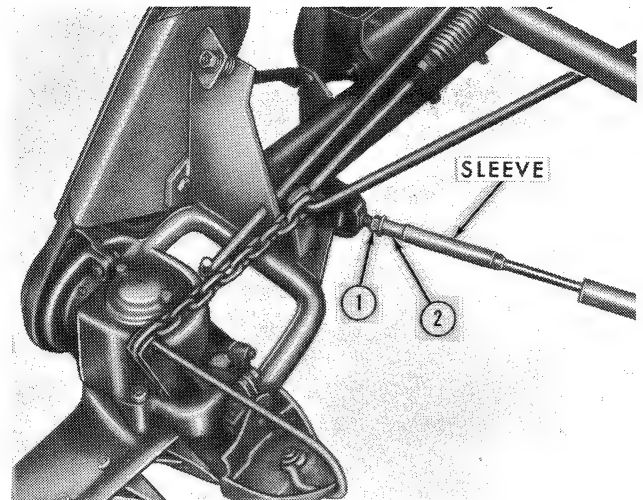

Figure 16
2. Loosen the jam nut (1), Figure 16.
3. Turn the sleeve, as required, with a pipe wrench at (2).
**IMPORTANT:** Do not use the pipe wrench at any point on the sleeve except (2), or damage will be done to the sleeve surface which may cause the breakback to malfunction.
4. Tighten the jam nut (1).